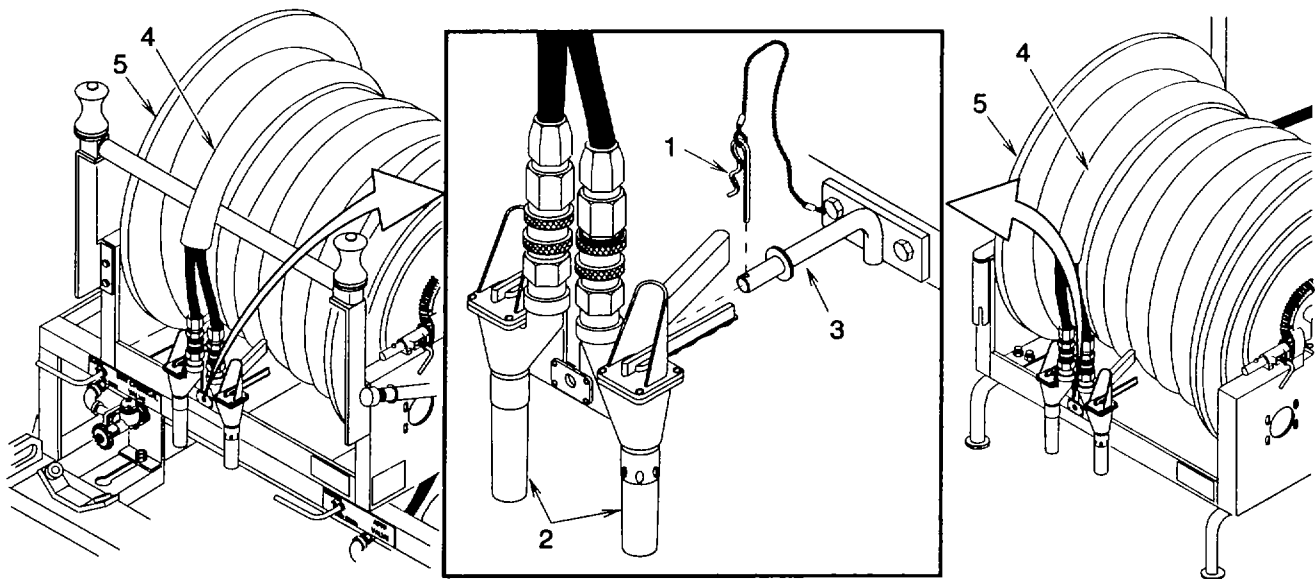

Figure 2-14. Unwind Hose Assembly from Drum
(3) Rotate the dry chemical tank ball valve rod (3) and the AFFF tank ball valve rod (4) to full open position. The system hose assemblies will pressurize up to the fire hose nozzles.
(4) Remove lock pin (1) (fig. 2-14) and fire hose nozzles (2) from nozzle bracket (3).